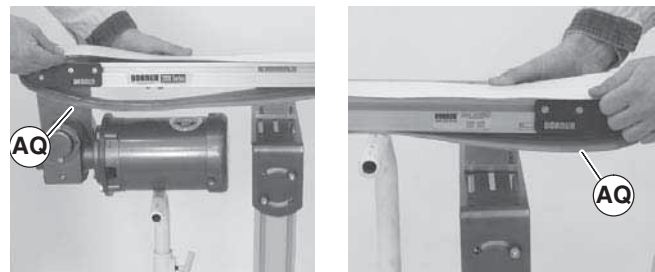

Figure 24
3. Install belt (Figure 24, item AQ) on conveyor. Lift conveyor slightly to avoid pinching belt on temporary support stands.